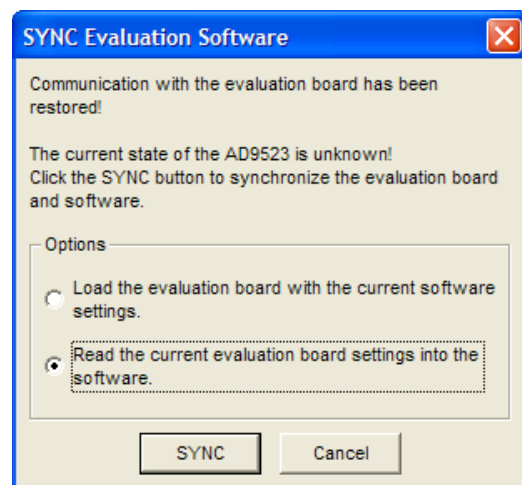

Figure 26. SYNC Evaluation Software Window
3. Reconnect the 6 V power supply. This automatically loads the EEPROM settings into the AD9523-1. The programmed settings can be observed at the outputs. In addition, a window opens (see Figure 26). Click the second option to read from the AD9523-1. This loads the control software with the current register settings that were programmed by the EEPROM.